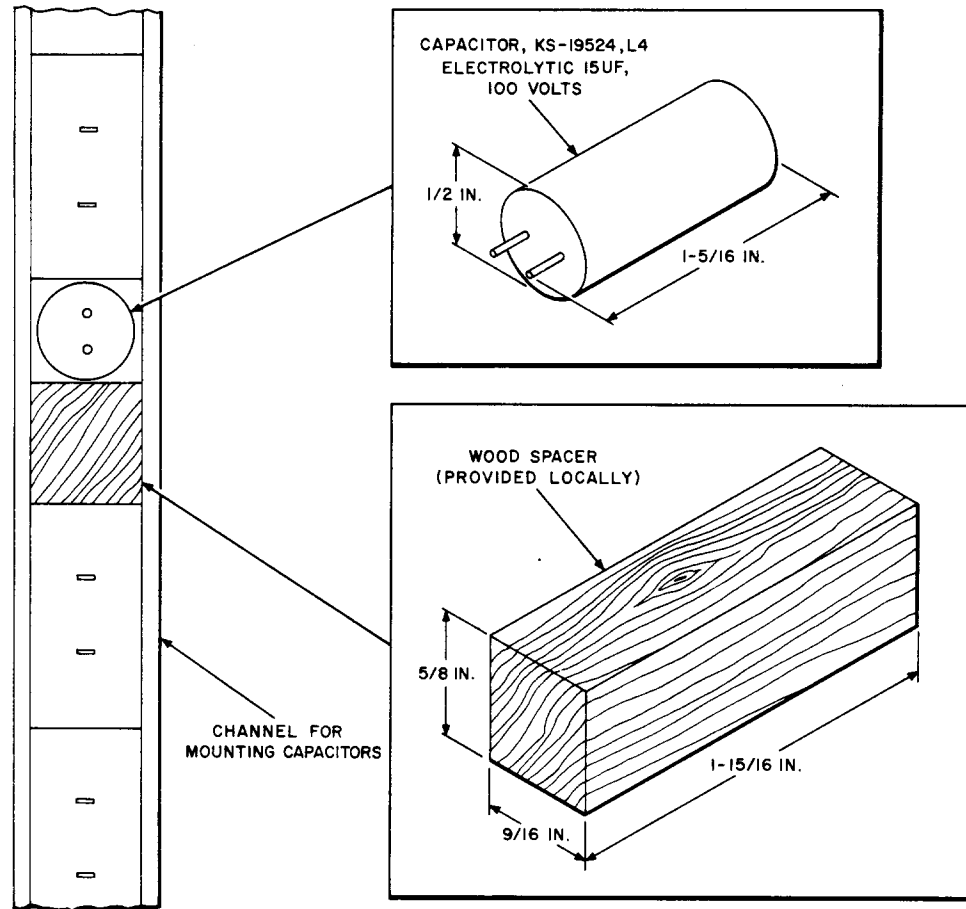

Fig. 4 — Mounting Arrangement for Replacement of 15-UF Capacitor — Central Office Unit
3.08 The original capacitor was rectangular and mounted in a vertical channel at the back of the concentrator cabinet. The KS-19524 replacement capacitor is cylindrical and smaller, thus requiring a spacer to maintain other components in the stack at the same position for wiring purposes. See Figure 4 for suggested mounting arrangements.
4. Capacitor, electrolytic KS-19524, L4, 15-uf, 100 volts is the recommended maintenance replacement for original equipment 15-uf capacitor. Wood spacer, 5/8 by 9/16 by 1-15/16 inches, is used when mounting this capacitor and is furnished locally. (See Fig. 4.)